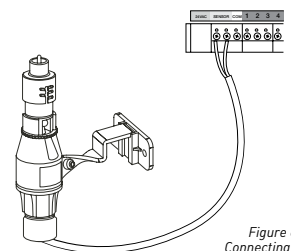

Figure 6:
- Connect the rain sensor wires to the wiring terminal ports (yellow in color) labeled "Sensor" [see figure 6].